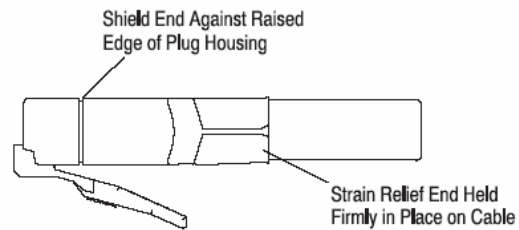

Figure 12
- The shield end must be against the raised edge of the housing. The strain relief end must be held firmly in place on the cable. See Figure 12.